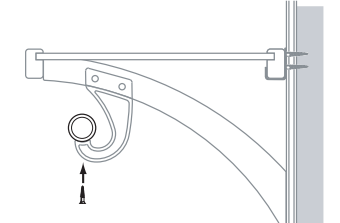

FIG. 7.1
- Secure Garment Bar to J-Hook Using #6 1 1/4" self drilling screw. (Fig. 7.1) For best results use a power drill.